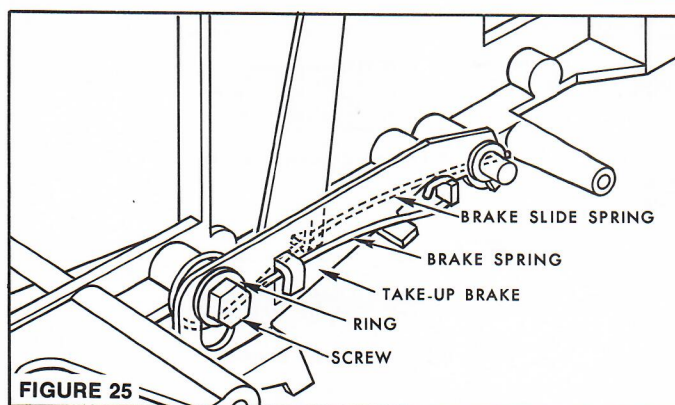

FIGURE 25
7. Remove the RING, the SCREW, the BRAKE SPRING, and the BRAKE SLIDE SPRING, Figure 25.